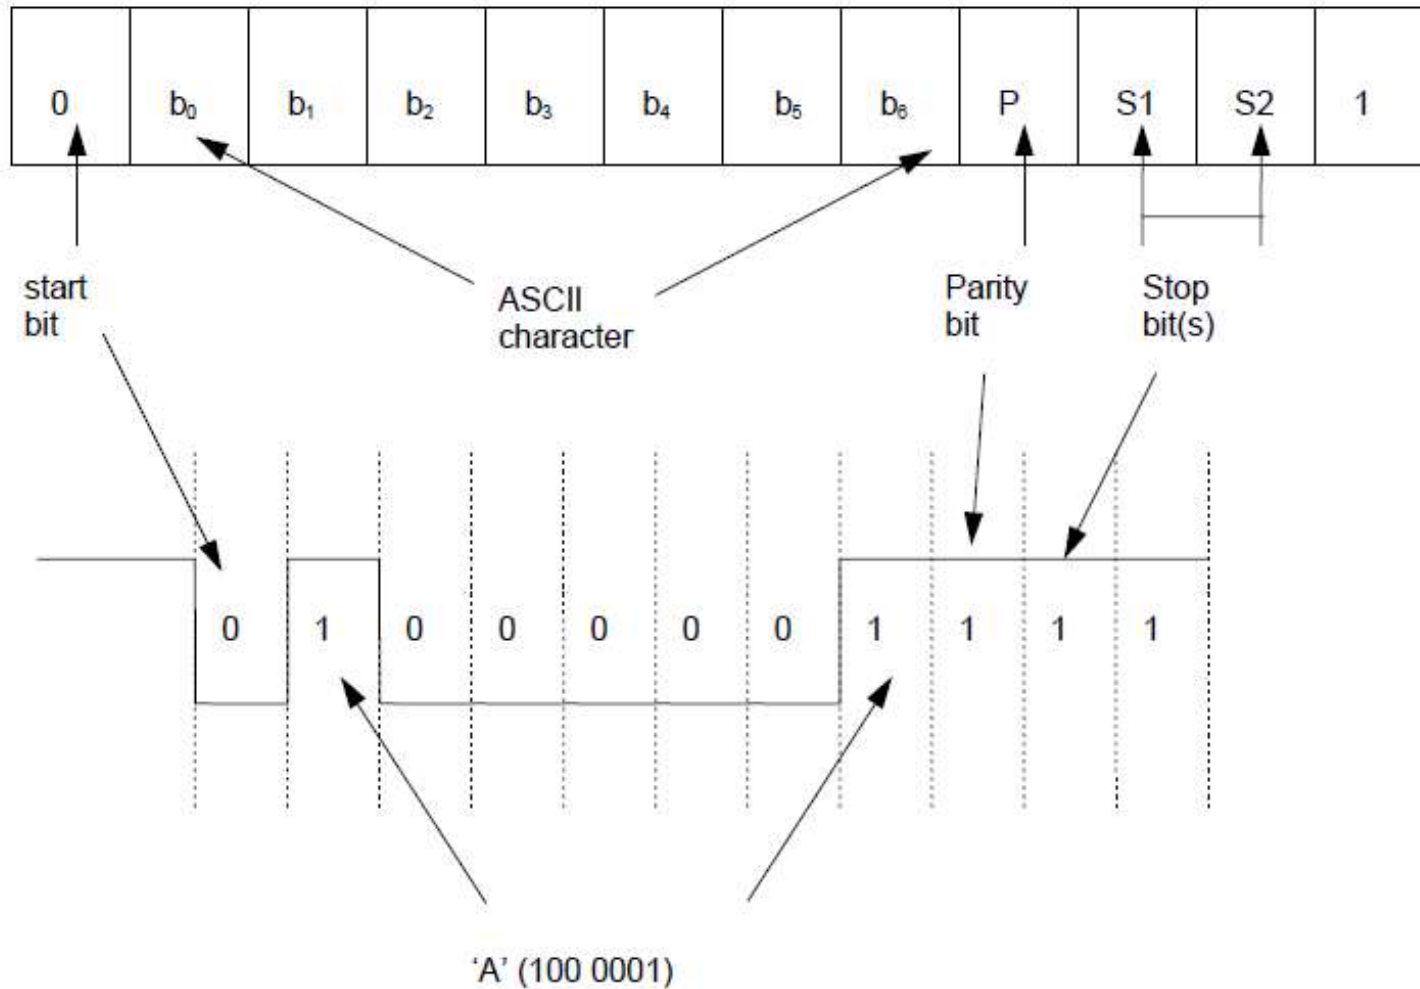

Figure 1: RS-232 frame format
- This delay is called the inactive time and is set at a logic level high (–12 V) as shown in Figure 1.
- Figure 1 shows a frame format and an example transmission of the character 'A', using odd parity.